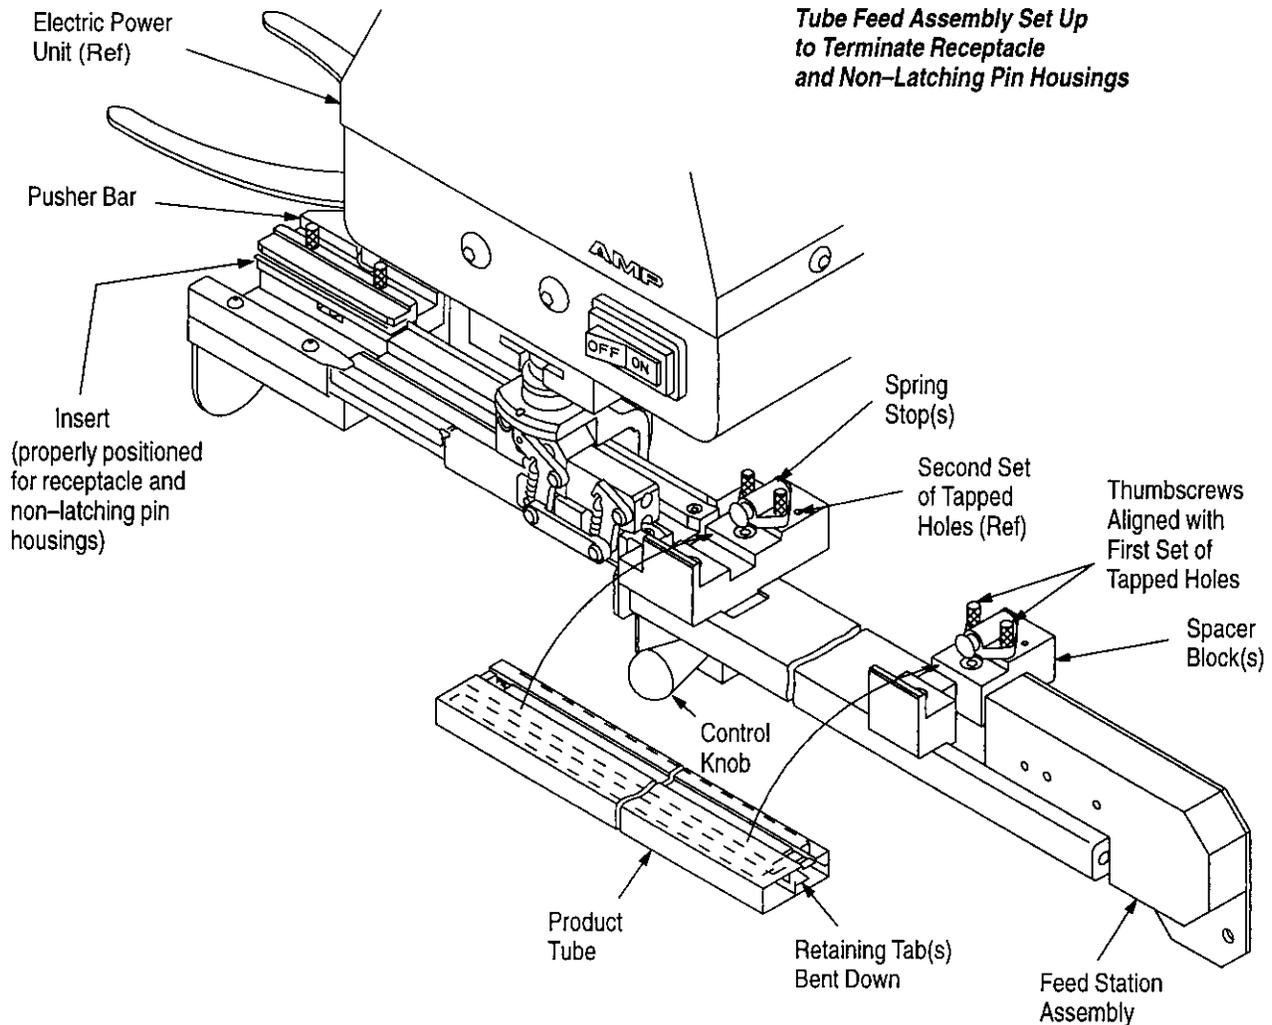

Figure 2
This instruction sheet covers the setup and operation of AMP* MTE Tube Feed Assembly 856675-1 designed to be used with AMP Electric Power Unit 931800-1, as shown in Figure 2. The assembly terminates unstripped wire in the shrouded pin and receptacle contacts of AMPMODU MTE housings and then seats the contacts within the housing. For setup and operation procedures of the power unit, refer to AMP customer manual 409-5746.
3.1. Setup (Figure 2)
A. Receptacle and Nonlatching Pin Housings (Figure 2)
2. Move control knob to the left (toward the seating station) until the latch engages with the sheet metal block at the far end. Place the product tube between the spacer blocks, as shown in Figure 2.
3. Reposition spring stop onto the spacer block, aligning the thumbscrews over the **first** set of tapped holes on the spacer block. See Figure 2.
5. Check position of insert on pusher bar. The insert must be positioned for the appropriate product, as shown in Figure 2. To re-adjust the insert, remove the thumbscrews, rotate the insert to the proper position; then retighten the thumbscrews.
NOTE Adjustment of the feed index adjustment screw requires the removal of feed station assembly 854650-1 (refer to Figure 2). Remove the two screws that secure the feed station assembly to the insertion station assembly and place the feed station assembly to the side.